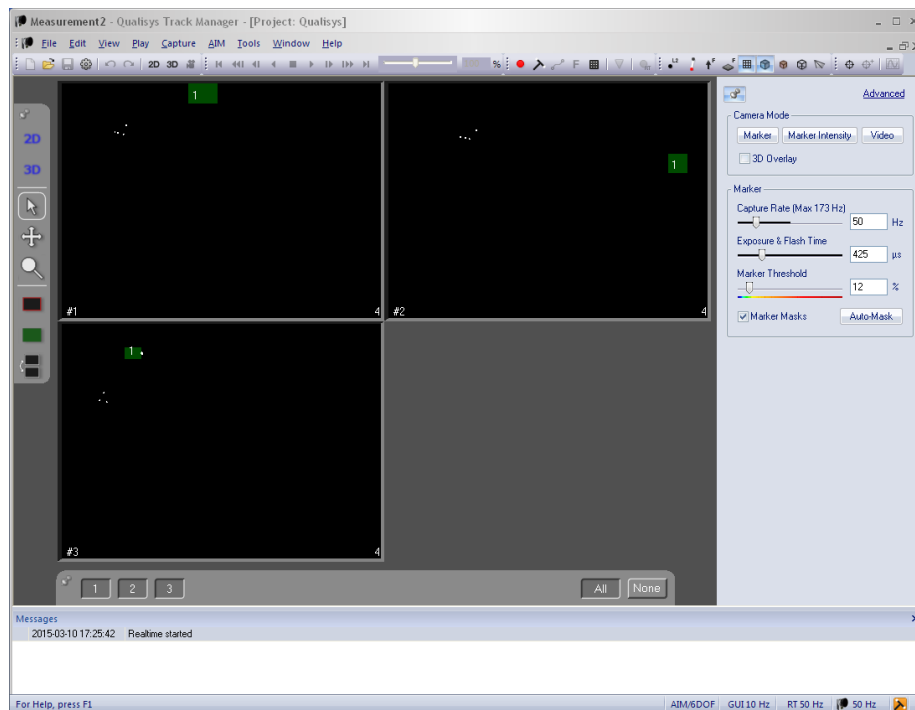

Figure 1.3: Qualisys Track Manager 2D view
2. Push the white sheet icon to start a new measurement. The main window should then display the 2D view, as in Figure 1.3. The squares numbered #1, #2 and #3 show the basin as seen from the respective cameras. The white dots are the vessel reflectors. A minimum of three reflectors must be visible in each camera.